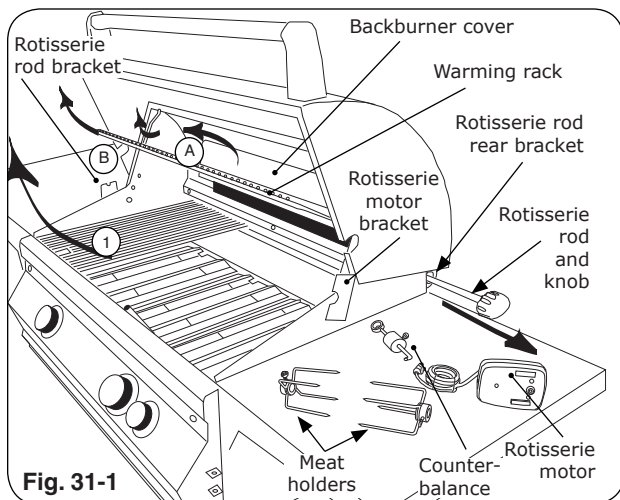
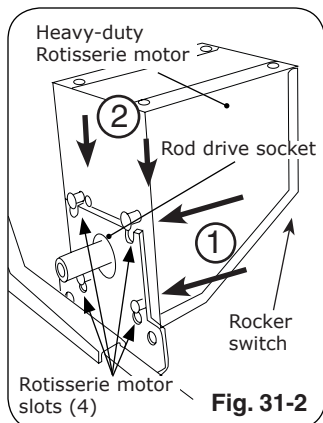
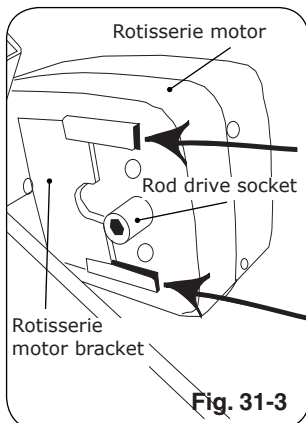

Fig. 31-1
Fig. 31-2
Fig. 31-3
2. Slide rotisserie motor fully onto motor bracket (right side, Fig. 31-1, Fig. 31-2 and Fig. 31-3).
3. Remove rotisserie rod from rear bracket (Fig. 31-1) and attach knob if necessary.